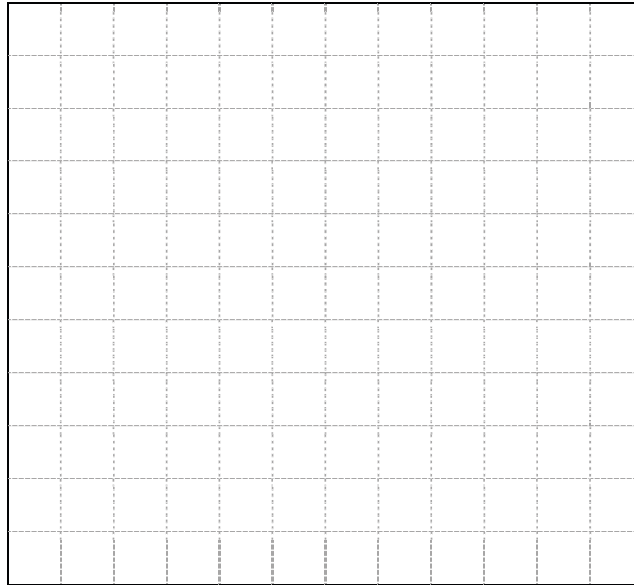

Figure 1-9. Constant torque and reduced torque V/f characteristics.
20. Plot the curves showing the constant torque and reduced torque V/f characteristics in Figure 1-9.